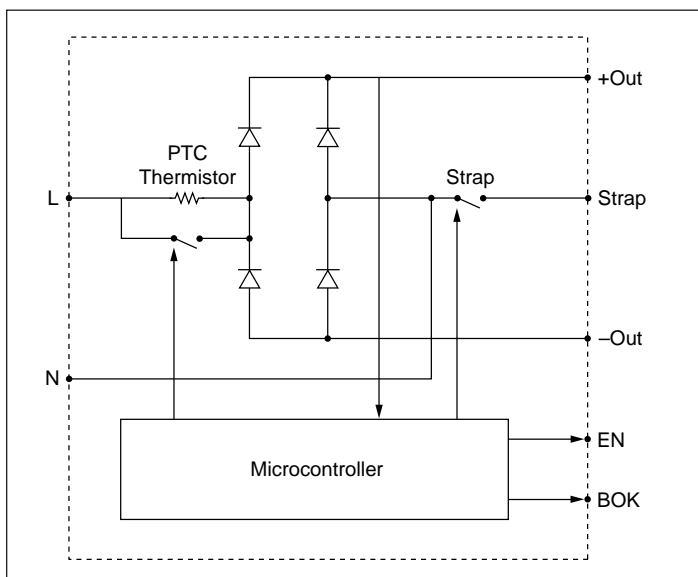

Figure 7—Functional block diagram: autoranging rectifier
The switch that bypasses the inrush limiting PTC (positive temperature coefficient) thermistor is open when power is applied, as is the switch that engages the strap for voltage doubling. (see Fig. 7). In addition, the converter modules are disabled via the Enable (EN) line, and Bus-OK (BOK) is high.